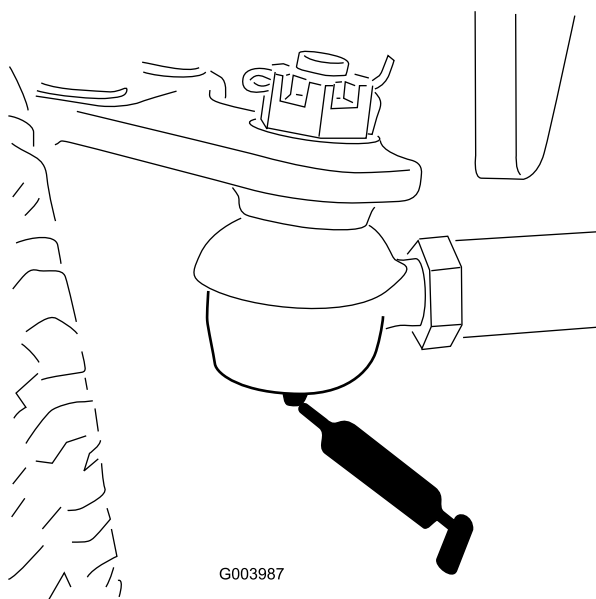

Figure 50
- Rear-axle tie rod (2) (Figure 50)